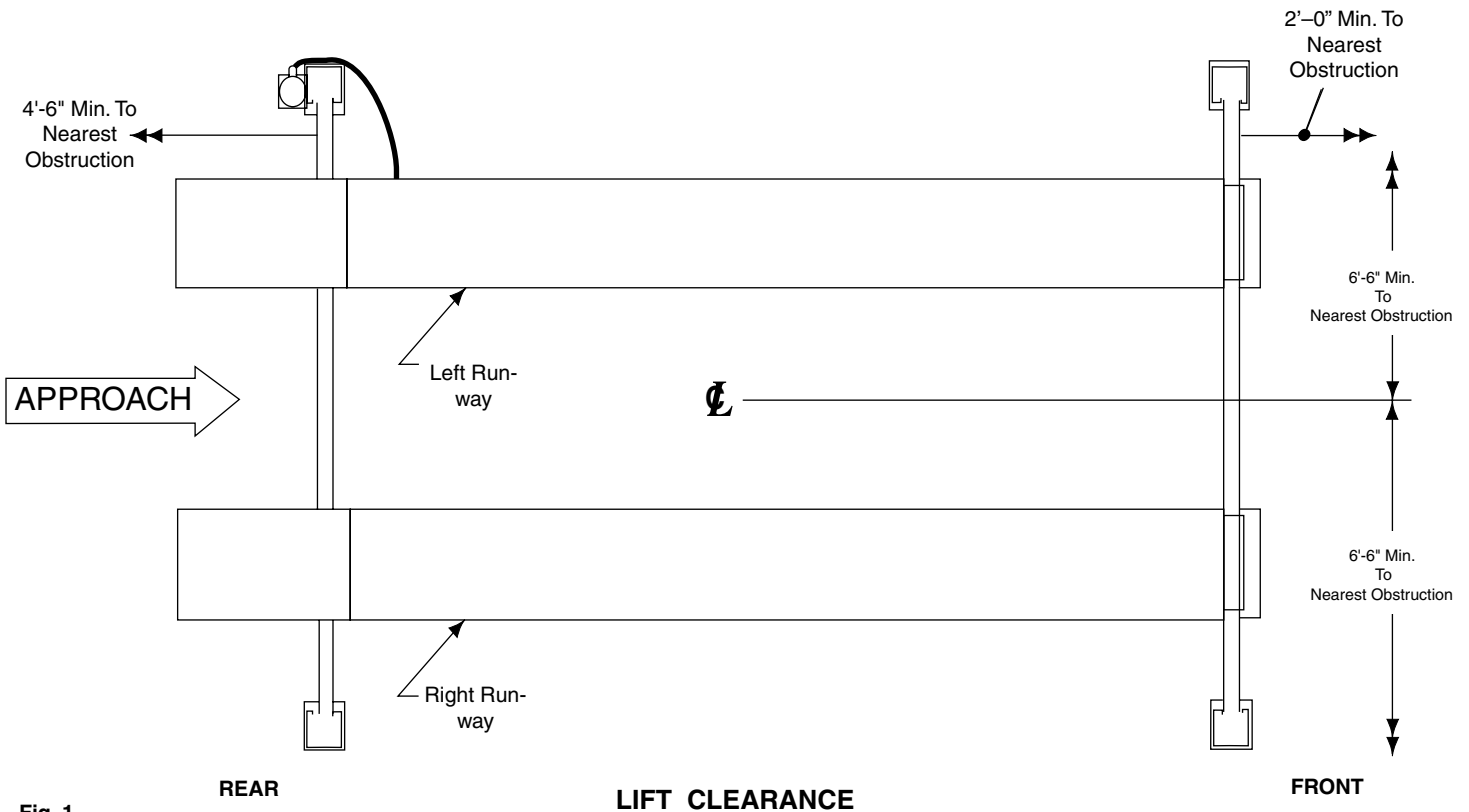

Fig. 1
- 1. Lift Location:** Use architects plan when available to locate lift. Fig. 1 shows dimensions of a typical bay layout. For power unit at right front, rotate lift 180°, leaving ramp/chocks and wheel stops in original position. Lift floor area should be level.
C. Position front and rear yokes at respective ends of runway, Fig. 1. The opening in the side of the yokes should be lined up with the cable sheaves in the runway ends. Feed cable ends through yoke openings, Fig. 4 and 9. Do not assemble sheaves in yoke ends at this time.
- B. Keep columns square to center line of lift. Check lift location in the bay, Fig. 1. Check dimensions side-to-side, front-to-rear, and diagonally. Diagonals must be equal to within 1/4", Fig. 11.